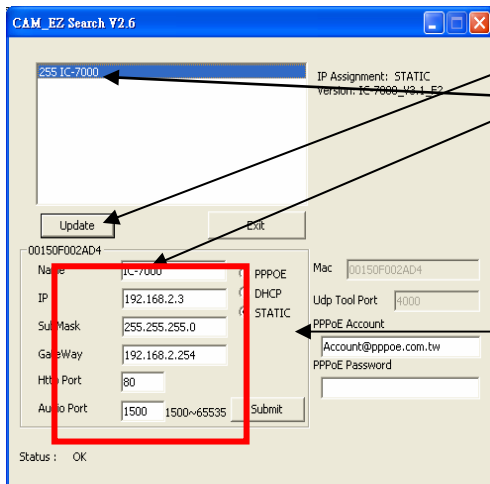

Figure 2
D. Open and execute CAM\_EZ Search (as shown in Figure 2). The system will scan the IP-CAM that you just installed automatically. Then, you will find 255IC-7000 in the column of Camera Lists. Click 255IC-7000 with left mouse button. You can see the default settings of IP-CAM.